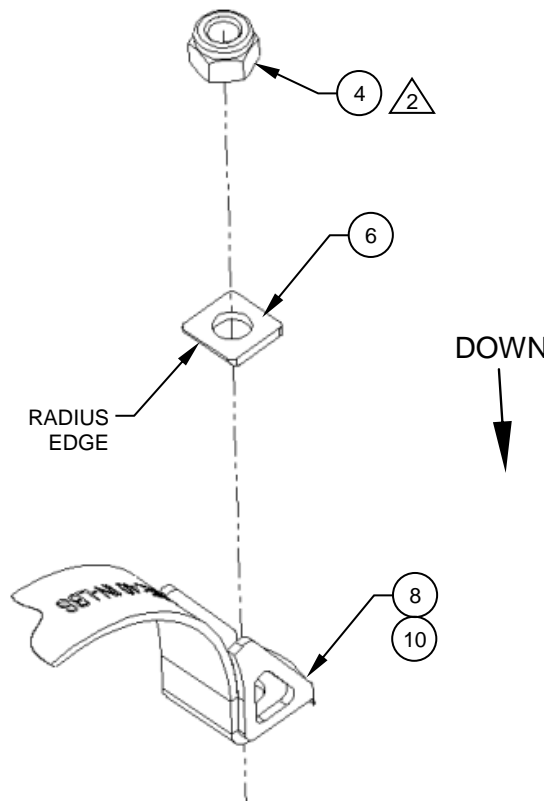

Figure 5
2. Once the Traction Paw, Detail (Item 1) is under the skid tube in its approximate location, place the Cap, Details (Items 7 & 11) & Strap, Assy's (Items 8, 10) on their corresponding bolts. Reference Figure 5.
NOTE: Ensure the radius edge on the Washer (Item 6) is oriented down and towards the skid tube. Reference Figure 5.